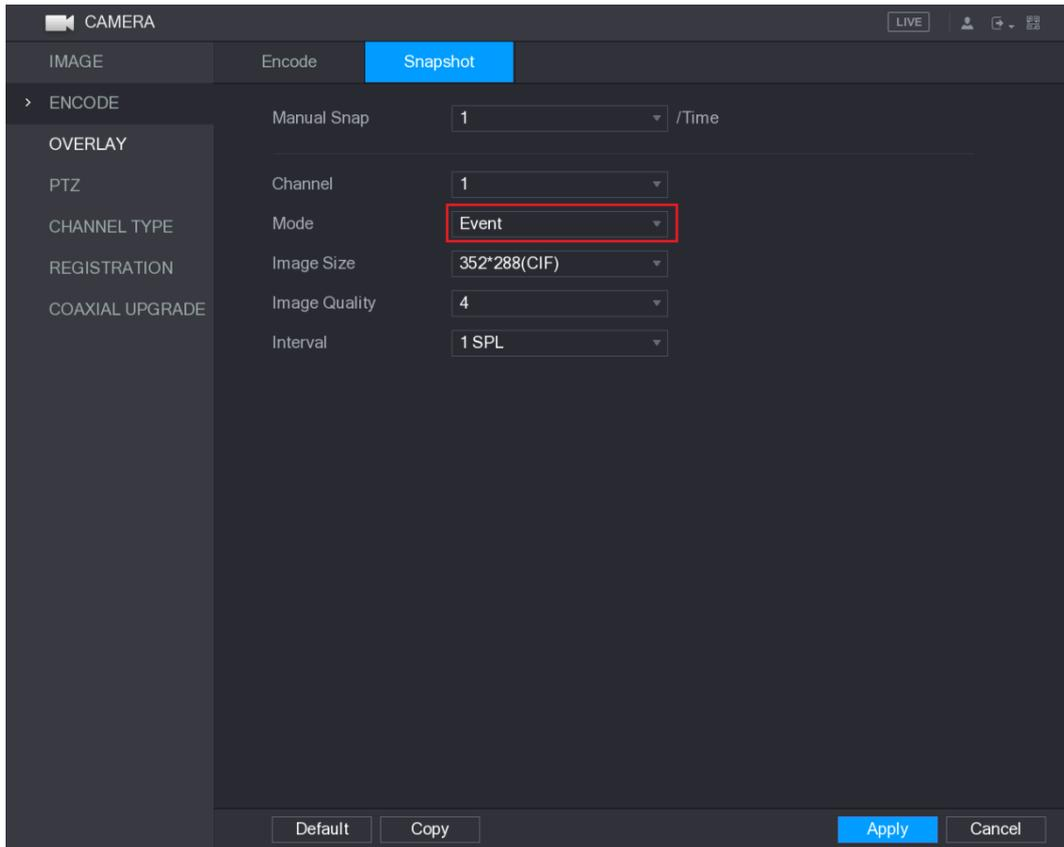

Figure 5-87
**Step 2** In the **Mode** list, select **Event**, and then configure other parameters. See Figure 5-87.